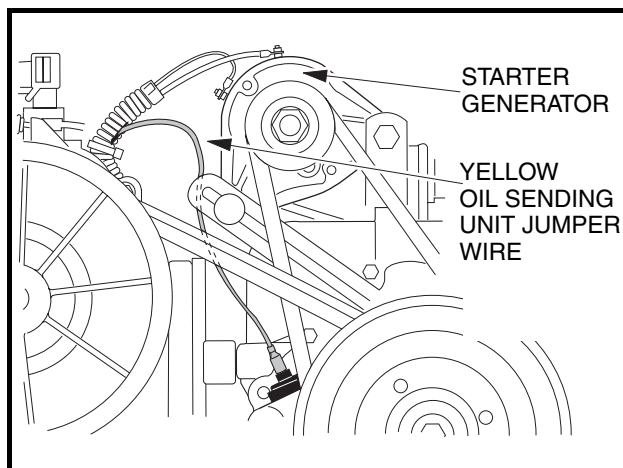

Figure 16-46 Oil Level Sensor Jumper wire
20. Connect the oil level sensor wire (18-gauge yellow) to the jumper wire (**Figure 16-46, Page 16-19**).